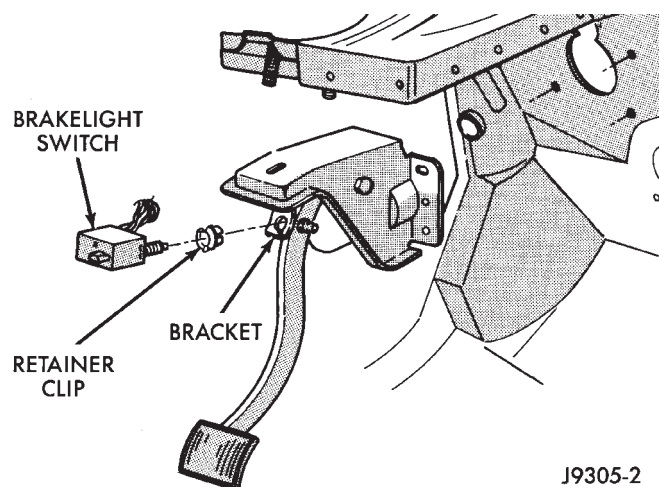

Fig. 4 Transmission And Clutch Housing Installation
- (10) Apply light coating of Mopar high temperature grease to input shaft splines and to release bearing slide surface of front bearing retainer. **Do not over-lubricate shaft splines. This could result in grease contamination of disc.**
- (11) Install transmission and clutch housing as assembly. Refer to Figure 4 for attaching bolt torques.